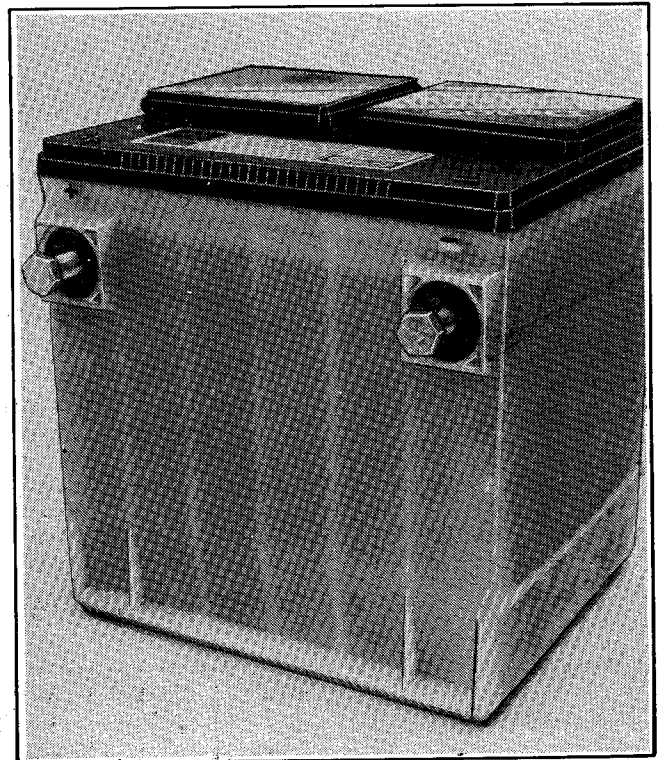

Figure 5J-8. Maintenance Free Battery
1. Thread a 3/8-16 bolt into each terminal, hand tight (See Fig. 5J-8.)